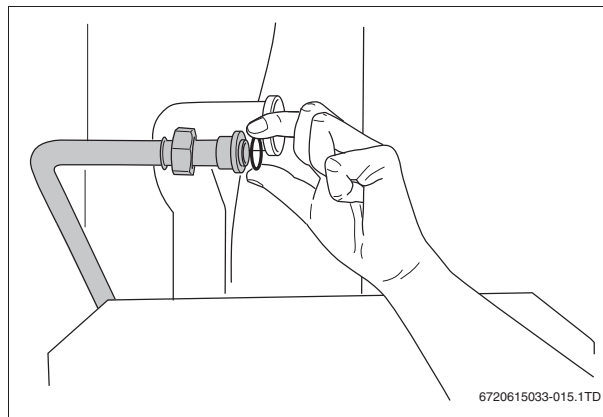

Fig. 14 Installing a new seal on the gas pipe
- Replace the seal from the gas pipe with a new seal (→ fig. 14).